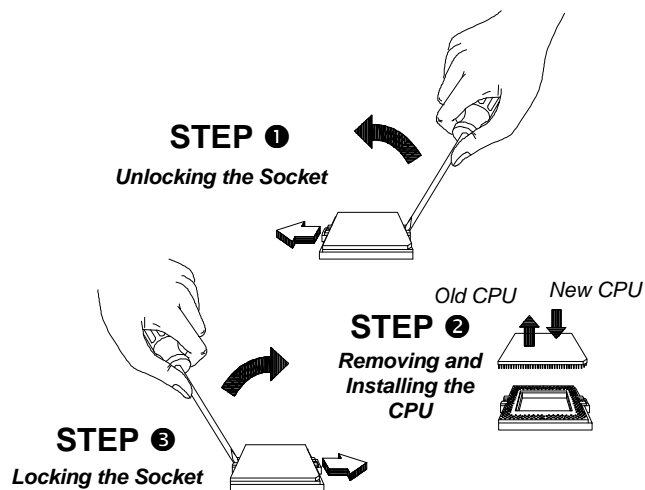

Figure 3-4 Removing and Installing the CPU
5. After removing the heat sink, follow these steps to remove the CPU and install a replacement CPU. Refer to Figure 3-4.
- ❶ Insert a flat-blade screwdriver into the opening at the right end of the socket and push towards the other end of the socket until the words OPEN and UNLOCKED show on both ends of the socket.
- ❷ Pull out the CPU. Then insert the replacement CPU.
- ❸ Insert a flat-blade screwdriver into the opening at the left end of the CPU socket and push towards the other end of the socket until the words UNOPENED and LOCK show on both ends of the socket.